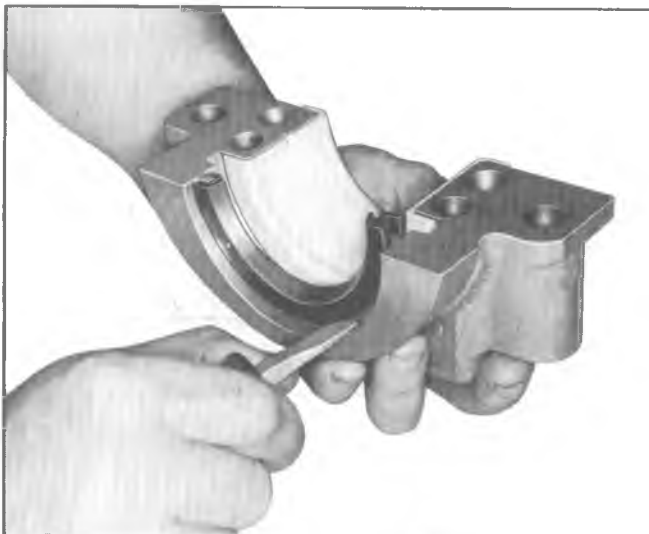

Fig. 6V—Removing Oil Seal (Lower Half)
2. Remove oil seal from the bearing cap by prying from the bottom with a small screw driver (fig. 6V).